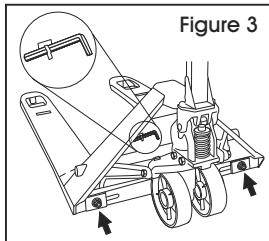

Figure 3
1. Locate and remove the Allen wrench from its clip on the truck body. (See Figure 3)